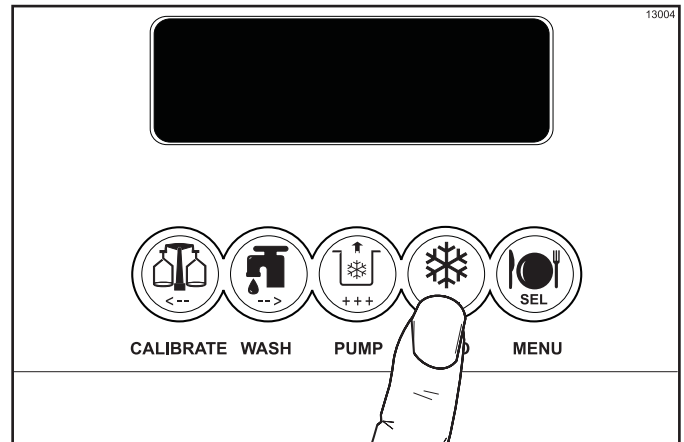

Figure 6-56
12. When ready to resume normal operation, press the AUTO key. (See Figure 6-56.)